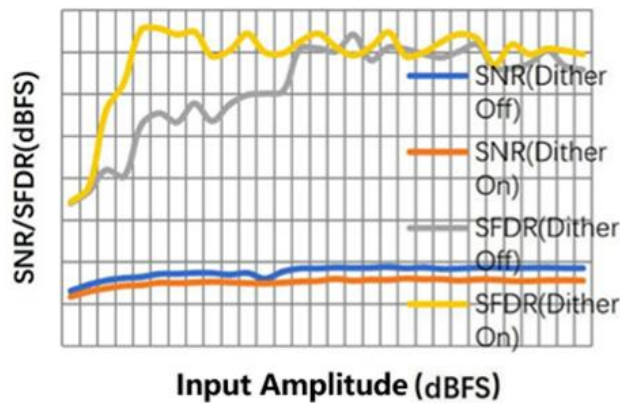
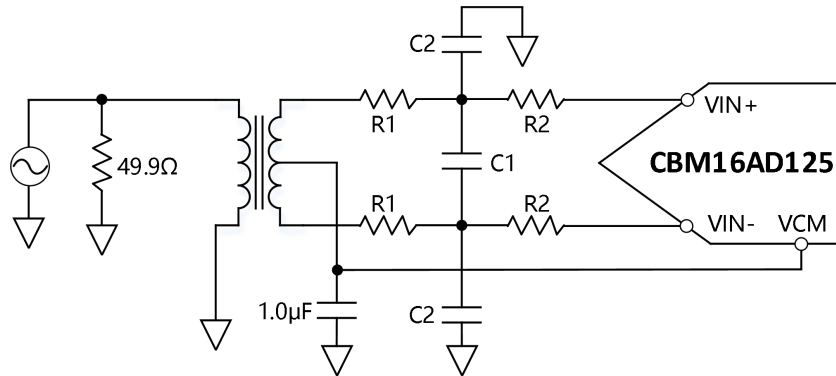

Figure 13 SNR/SFDR vs. Input Amplitude( $f_{in}=30.1\text{MHz}$ )
Figure 14. Differential Transformer-Coupled input Configuration
The ADC analog inputs are not internally dc biased. In accoupled applications, the user must provide this bias externally. An on-chip, common-mode voltage reference is available from either the  $V_{CM}$  pin or autonomous setting if  $V_{CM} = 0.5 \times AVDD$  (or 0.9 V) are met. When the common-mode voltage of the analog input is set by the  $V_{CM}$  pin voltage (typically  $0.5 \times AVDD$ ). The  $V_{CM}$  pin must be decoupled to ground by a  $0.1\mu\text{F}$  capacitor (Figure 13, Figure 14)
1. The input configuration uses differential transformer coupling. An example is shown in Figure 13. To bias the analog input, the  $V_{CM}$  voltage can be connected to the center tap of the secondary winding of the transformer.
2. The input configuration uses differential double balun coupling (see Figure 14). In this configuration, the input is ac-coupled, and the CML is provided to each input through a 33 Ω resistor. These resistors compensate for losses in the input baluns to provide a 50 Ω impedance to the driver. Table 8 displays recommended values to set the RC network.